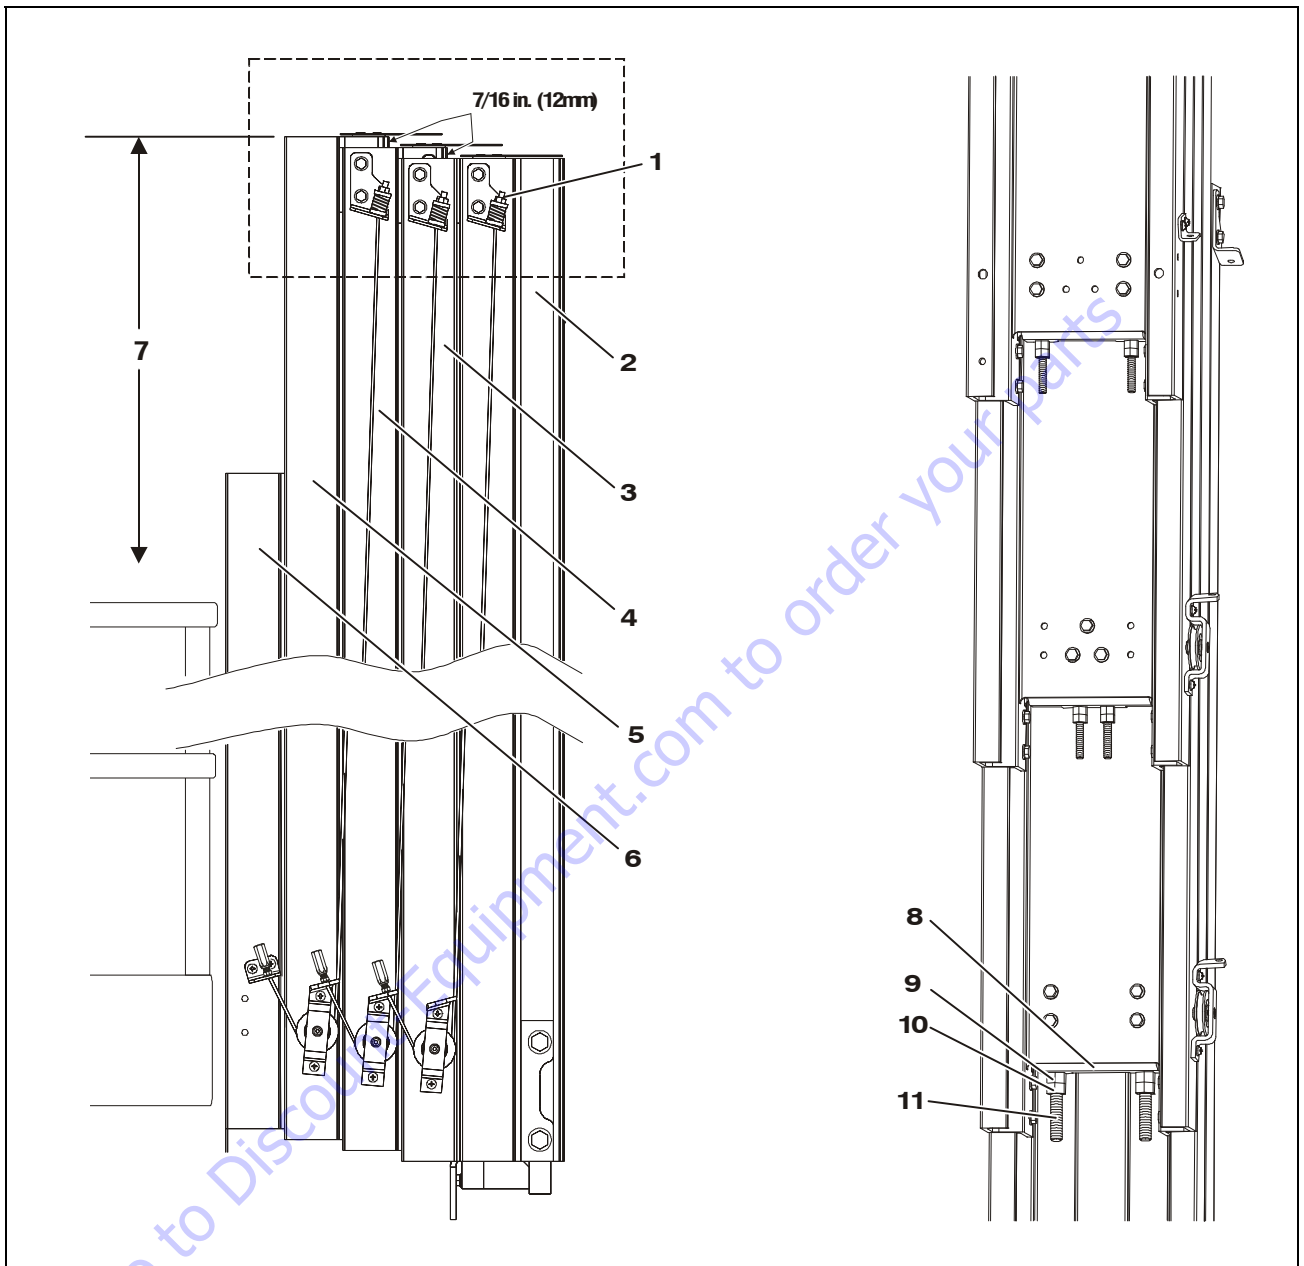

Figure 5-2. MVL/MSP - Mast Chain and Sequence Cable Adjustment Components
6. Tighten (to raise mast section), or loosen (to lower mast section) the adjusting nut against the anchor plate on each chain/cable. Adjust the nut the amount required to raise or lower the top of the mast section to match the side profile shown in Figure 5-2. when the mast is retracted.
7. Retract the mast all the way and check if the top of the mast sections appear as shown in Figure 5-2.
8. Repeat steps (1) through (7) for remaining mast sections.
1. Be certain the mast is completely retracted and at the bottom of travel. Check the mast "Side Profile" at the top of the mast as shown in Figure 5-2., adjust mast sections to proper height if necessary.